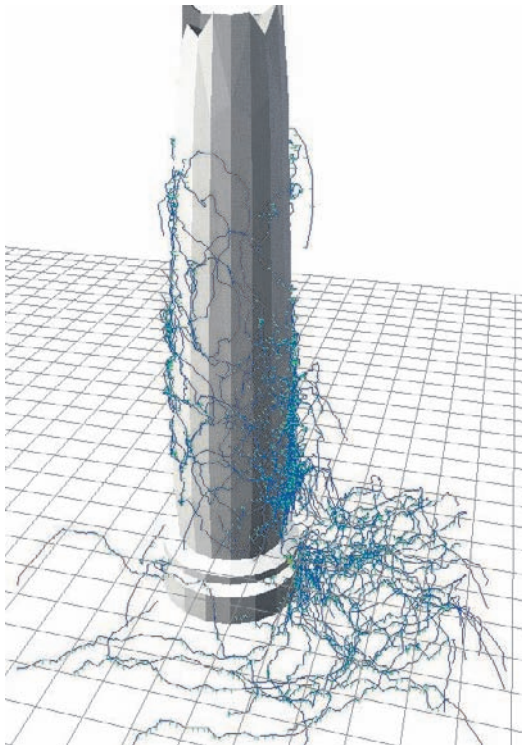

Figure 7.45
6. Click the Grow button to grow the ivy and watch the vines begin to emerge from the start point. You can stop the growth of the ivy whenever you are happy with the effect by clicking Grow again. The grown ivy should look something like that in Figure 7.45. You can control the growth interactively while the ivy is growing by changing parameter values or by setting a new start point (by double-clicking the LMB on a new spot on the object). If you find that the ivy is growing on the inside of your mesh instead of the outside, click the Flip Normals button at the top of the buttons panel.